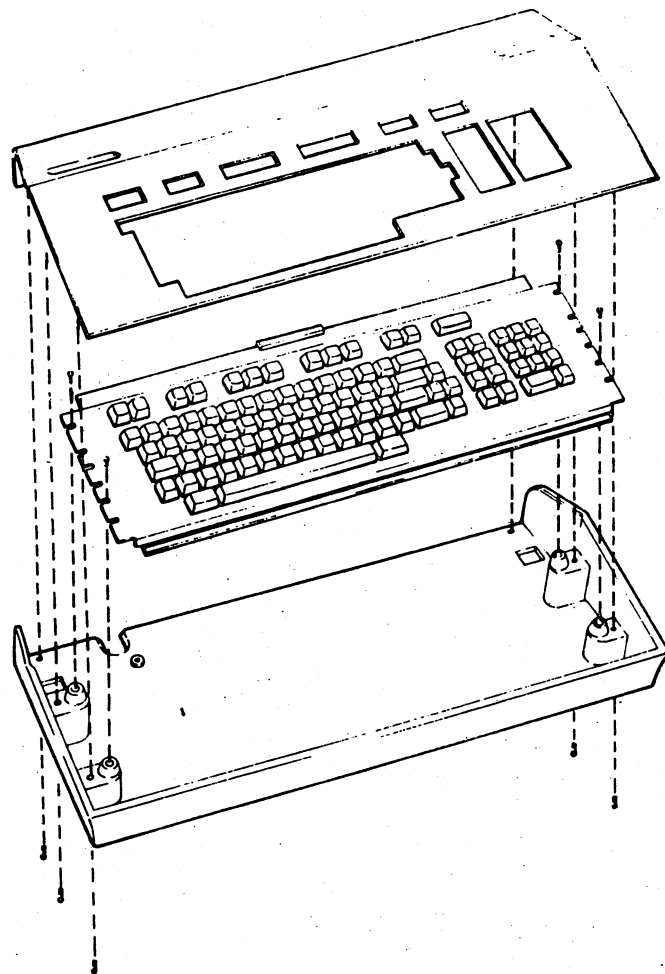

Figure 6-29. Keyboard Assembly
6. Return the keyboard to the keys-up position and lift the cover off (figure 6-29).